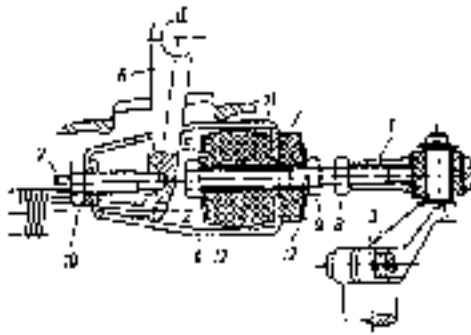

Fig. 29-3/2
Check whether the rubber buffers (11) and (13) have sufficient initial tension. The cup washers (12) should rest against the spacer sleeve (5), but the spacer sleeve must not be deformed when the hexagon nut (9) is tightened (see Fig. 29-3/2).
2. Unscrew the hexagon screw for the clutch pedal shackle (1) and pull out the shackle (see Fig. 29-3/1).